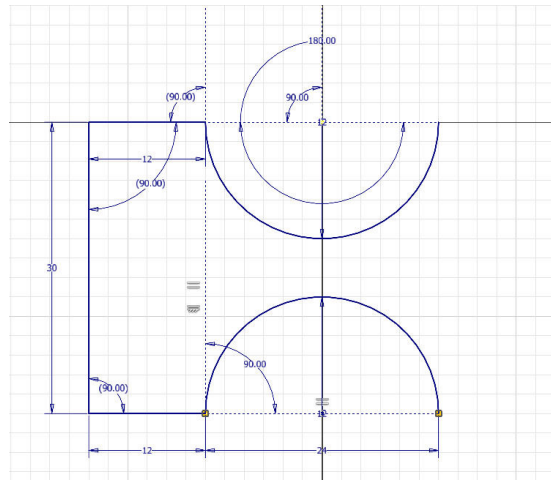

Figure 2-94 Sketch showing lower arc
12. Move the cursor upward, enter **12** in the length input field and press Enter; the lower arc is created, as shown in Figure 2-94.